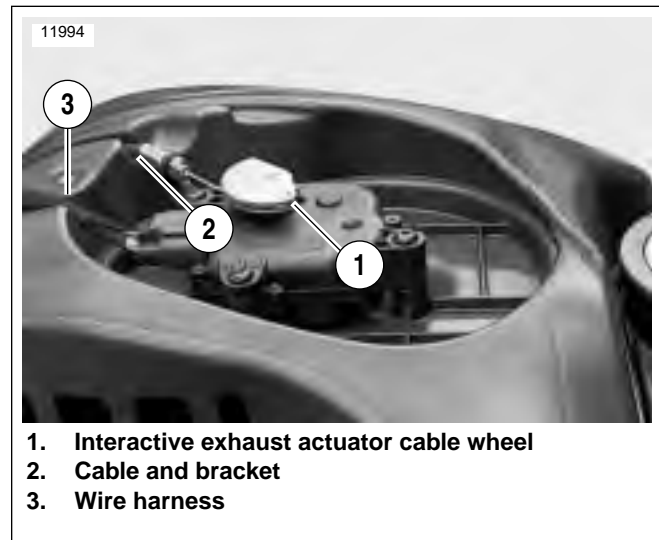

Figure 7-98. Interactive Exhaust Actuator
2. See Figure 7-98. Attach controls:
- a. Attach interactive exhaust cable (2) to cable wheel (1) on actuator.